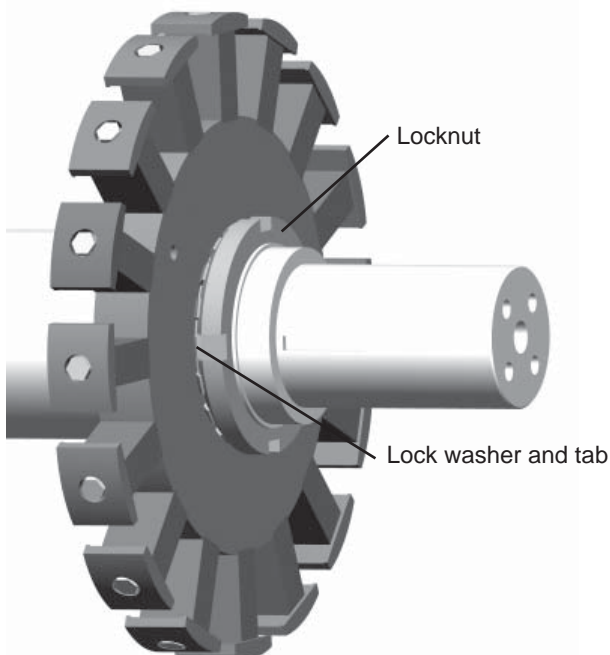

Figure 26: PMG rotor with locking nut
4. If the generator has a PMG rotor, pull it off separately using hand force. Wrap the PMG rotor in plastic to avoid contamination with metal filings. Note: Some inboard PMG assemblies use a locknut to secure the PMG rotor. See figure 26. To remove the PMG rotor with a lock nut:
2. Use a puller to remove the bearing from the shaft end with a cap. If the bearing is going to be used again, make sure the puller supplies pressure only against the bearing inner ring (see Figure 26).